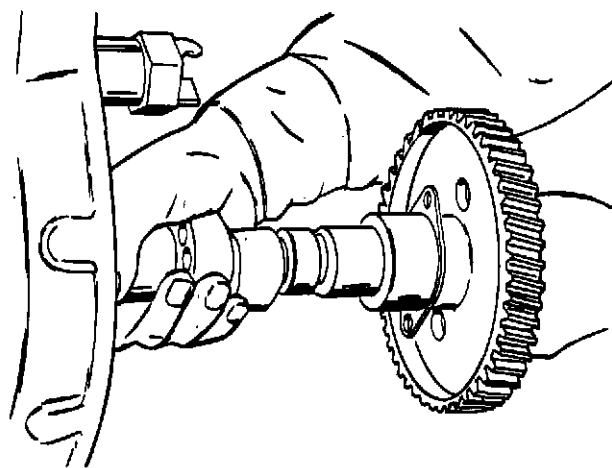

Figure 5-34. Camshaft and Thrust Plate Removal
12. Remove the thrust plate mounting bolt and washer assembly (2, figure 5-35) and pull the camshaft out of the cylinder block as shown in figure 5-34.